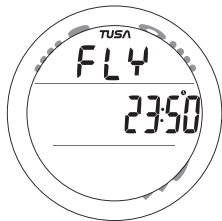
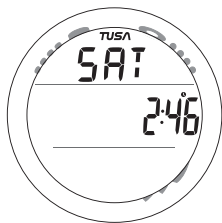

Fig. 85 - TIME TO FLY
Fig. 86 - DSAT TIME
- While viewing the first Plan screen, press and release the A button momentarily (< 2 sec) to access the Time to Fly screen (Fig. 85), then press it again to access Dsat Time screen (Fig. 86).